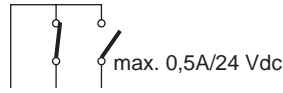

Fig. 16
- 6. **Electric lock - N.O. contact (max. capacity 0.5 A/24 V) (fig. 16).** If no power is supplied the electric lock is active and therefore guarantees-CLOSING mechanical locking. In the NIGHT function the electric lock is active even if no power is supplied. In the event of an opening command (internal command or EMERGENCY OPENING), the electric lock is temporarily powered to enable the door to be opened. In this case a reverse stroke command is also